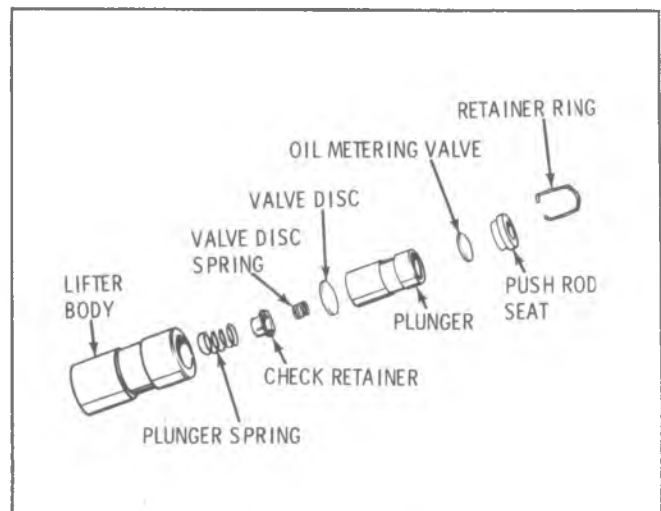

Fig. E-32—Valve Lifter Disassembled
4. Assemble valve disc spring and retainer into plunger. (Fig. E-32) Make sure retainer flange is pressed tight against bottom of recess in plunger.